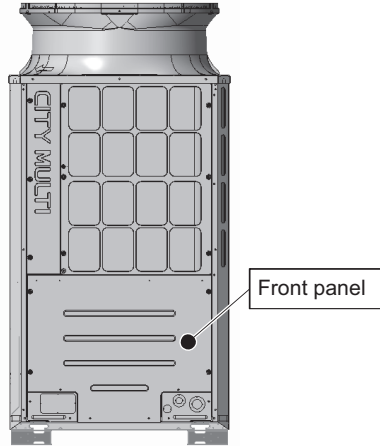

Figure 1
[Figure 1-b]
- (1) Remove the front panel from the unit by unscrewing the eight screws. (See Figure 1.)